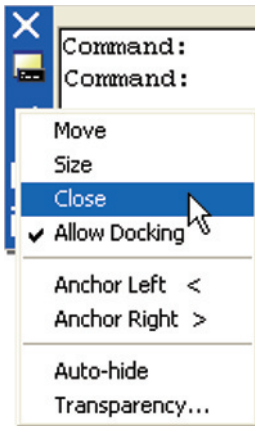

Fig. 1.34 Closing the **Command** palette
2. The command window is really a palette which can be *dragged* from its normal position at the bottom of the AutoCAD window. A *right-click* in its title bar brings up a menu (Fig. 1.34). Select **Close** from the menu and the command palette disappears from the screen after which a warning window appears stating that the palette can be restored by pressing the **Ctrl + 9** keys.